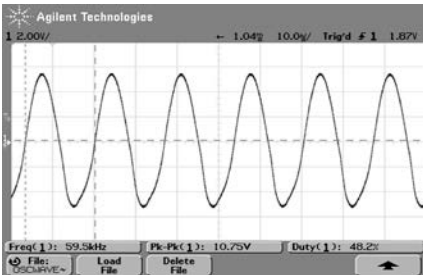

Figure 3.
5. Verify channel 1, 2, 3, and 4 oscillator sine wave (shown in Figure 3, below) forms across surge protectors LA1, LA2, LA3, and LA4. The sine wave should be 8 to 12 Vp-p and between 20 and 100 kHz.